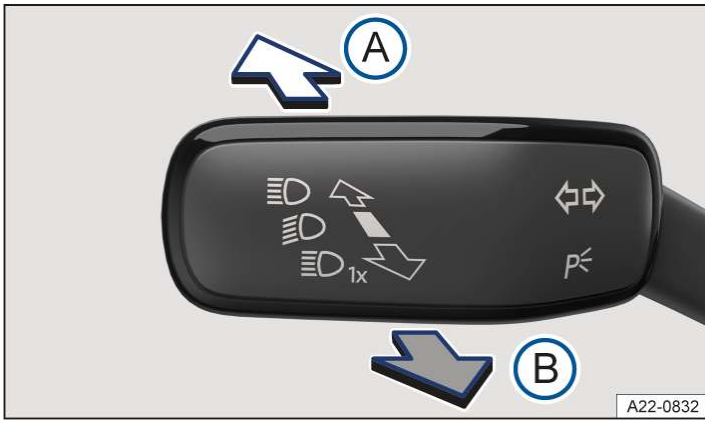

Fig. 1 On the left-hand side of the steering column: turn signal and main beam lever.
3. Tap the lever forward from the basic position → Fig. 1 (A).
Or: if Dynamic Light Assist is switched on and active, pull the lever back → Fig. 1 (B).
Or: if Dynamic Light Assist is switched on and not active, tap the lever forward → Fig. 1 (A). Manual main beam is now switched on. To switch off the manual main beam again, pull back the lever.